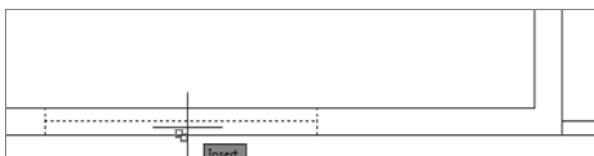

FIGURE 7.40 Snapping to the insertion point of the block
7. Place the cursor over the window block until the Insert marker appears (see Figure 7.40); then click to define the base point for the COPY command as the insertion point of the block.